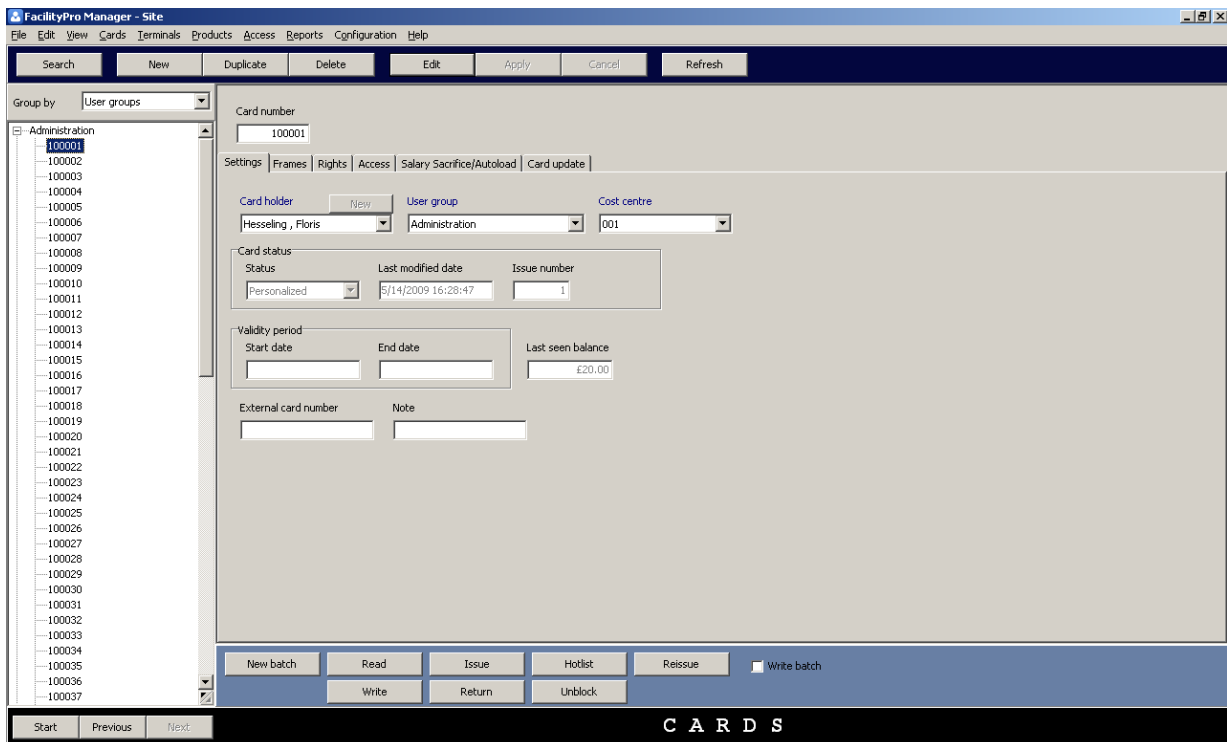

Figure 3-1 The tab 'Settings' of the cards data screen
2. Choose **Cards**. You will see the cards data screen (Figure 3-1). (The tab 'Settings' will normally be active by default, if another tab is active, click the tab 'Settings'. The cards should be grouped by user group.)